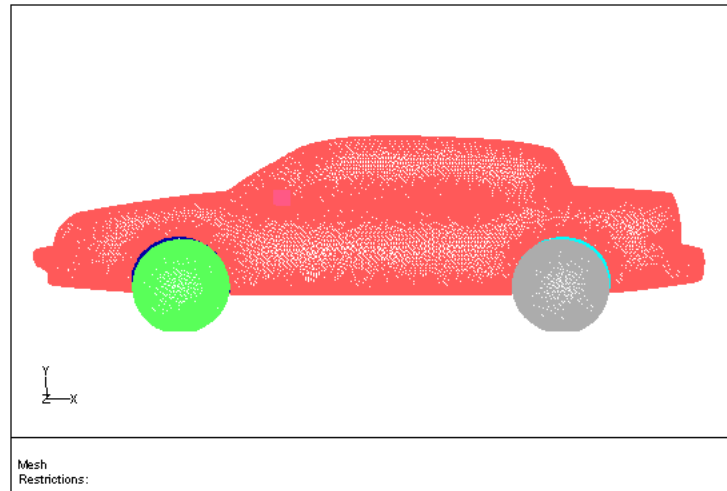

Figure 8.1: Boundary Mesh
- (b) Click Display (Figure 8.1).